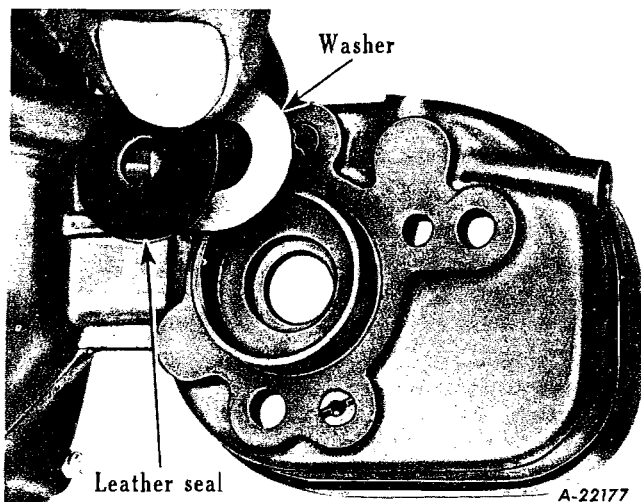

Fig. 61
- Fig. 61 - Remove the washer and leather seal from governor body.